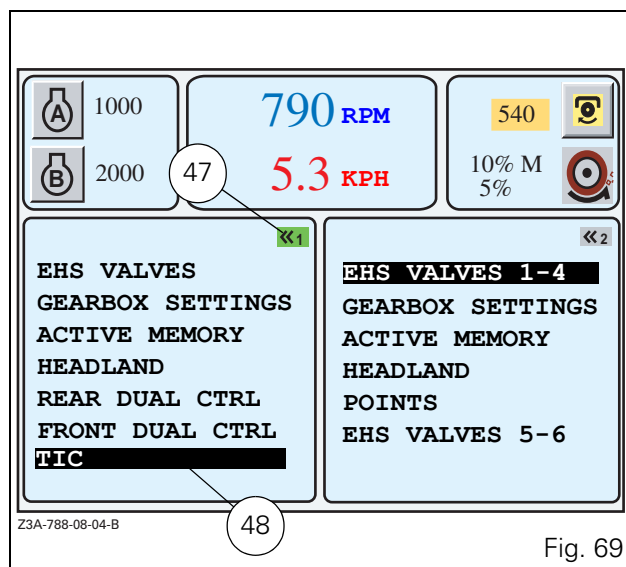

Fig. 69
TIC menu displayed in the left-hand window only (Fig. 69):
- To display this menu, press key «₁ twice. The first press selects the window and the second press displays the list if no application was activated previously. The active application is indicated by the green icon at the top right-hand of the window (47 Fig. 69), and on b/w screens the active window is indicated by the same icon in reverse video.
- To select the different menu, select the application using the encoder. The selected application is displayed in a black frame (48 Fig. 69).